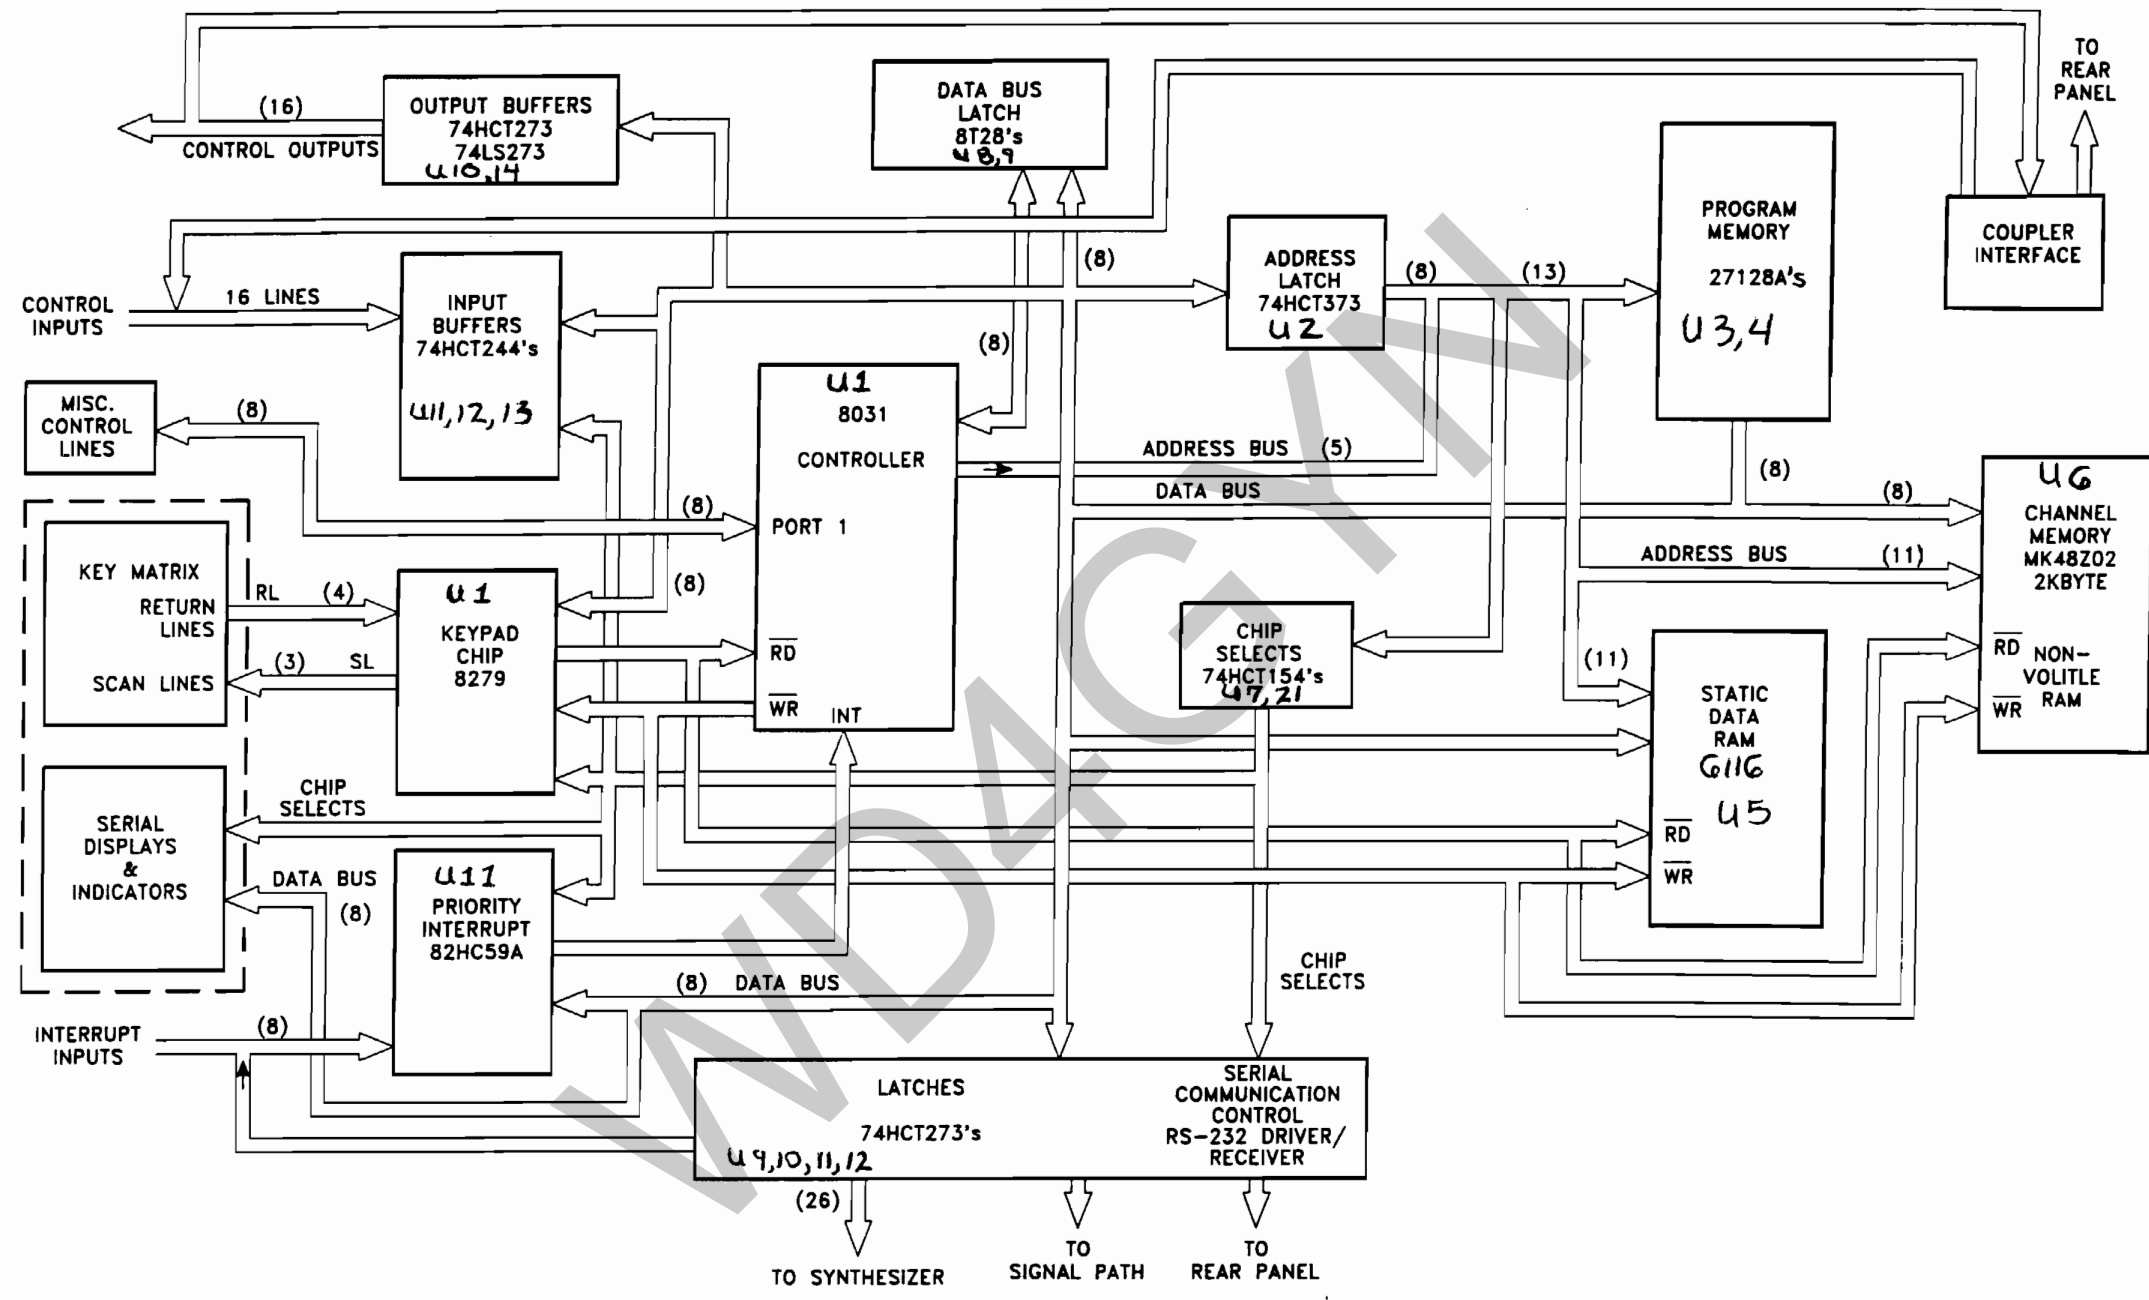

Figure 4.3
4.10 DIGITAL CONTROL AND DISPLAY (See Figure 4.3)